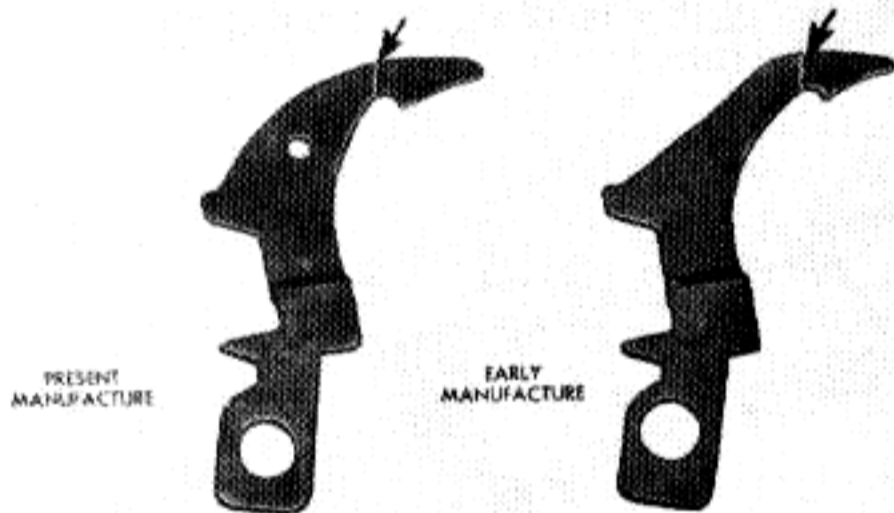

Fig. 148. Points to inspect on safety.
71. Safety: the safety is subjected to little wear and therefore fails mainly as a result of breakage. Breaks usually occur at the points indicated in Fig. 148. Either the type of early manufacture or the slightly modified later manufacture safety is satisfactory for use.